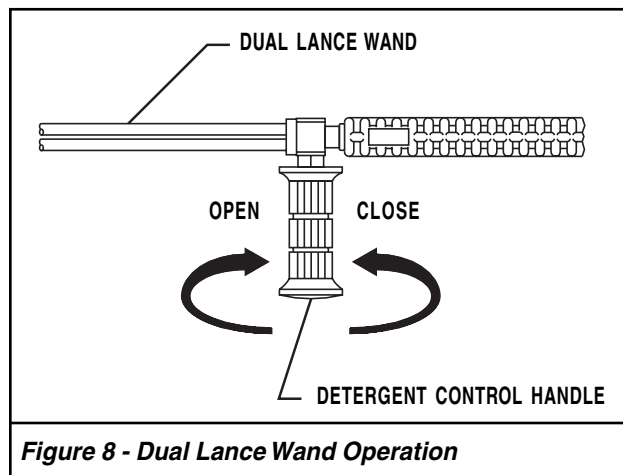

**Figure 8 - Dual Lance Wand Operation**
refer to **Figure 8**. The output pressure is automatically reduced for detergent application. Allow detergent to reach end of wand before proceeding to step 2.
7. Close the detergent control handle on the dual lance wand to permit high pressure rinse, refer to **Figure 8**. Rinse from top to bottom to prevent detergent from dripping onto rinsed area.
1. Open detergent control handle on dual lance wand, refer to **Figure 8**.